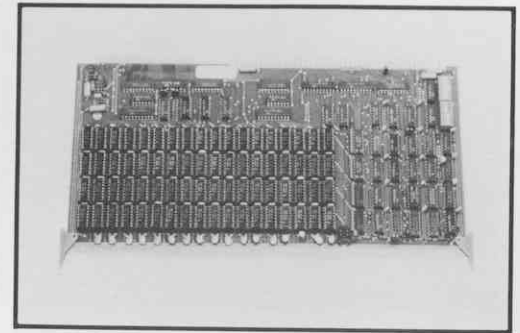

Figure 86 Chrislin Multibus Memory Board
The Chrislin board is normally in slot 8 of the card cage. Figure 86 shows a Chrislin Multibus memory board.
6.22 Compare the boards in your system to Figure 86. Set Chrislin boards aside for return to Sun Microsystems. Chrislin board(s) will NOT be used in the upgraded workstation.